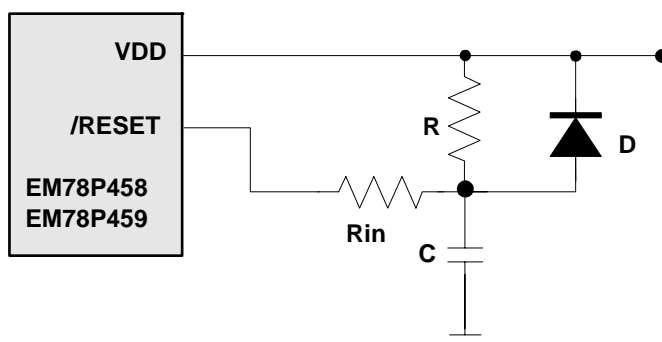

Fig. 22 External Power on Reset Circuit
The circuit shown in Fig. 22 implements an external RC to produce a reset pulse. The pulse width (time constant) should be kept long enough to allow Vdd to reach minimum operation voltage. This circuit is used when the power supply has a slow rise time. Because the current leakage from the /RESET pin is about $\pm 5\mu\text{A}$, it is recommended that R should not be great than 40 K. In this way, the voltage at Pin /RESET is held below 0.2V. The diode (D) acts as a short circuit at power-down. The capacitor, C, is discharged rapidly and fully. Rin, the current-limited resistor, prevents high current discharge or ESD (electrostatic discharge) from flowing into Pin /RESET.